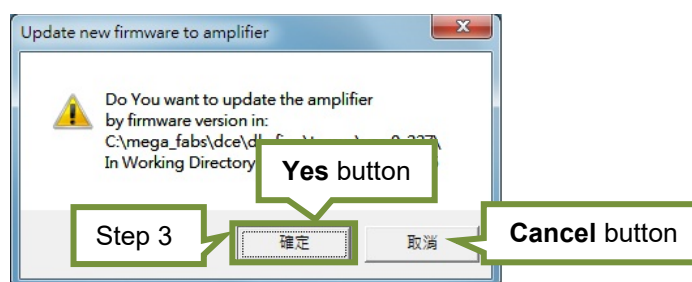

Figure14.1.3
- Step 2: Click on **File** and select **Update selected firmware to amplifier**. A message dialog shown as figure 14.1.3 appears.